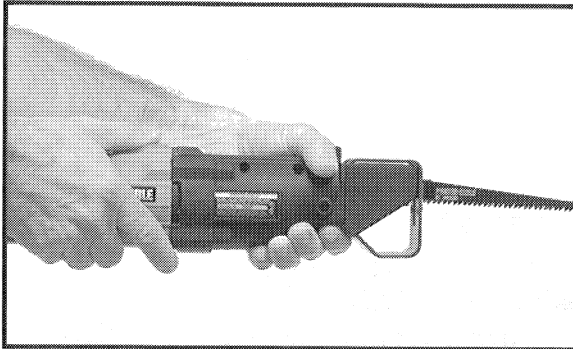

Fig. 4
1. **ALWAYS** hold saw as shown in Fig. 4 to prevent accidental electric shock resulting from cutting a live wire when sawing into a wall or other blind area.
**WARNING: TO PREVENT ACCIDENTAL ELECTRICAL SHOCK THE SAW MUST BE HELD AS SHOWN IN FIG. 4.**
**WARNING:** Exercise extreme caution when blind cutting to be certain there are no foreign objects, such as electrical wires, conduit, plumbing pipes, etc., that may come in contact with the blade. BE CERTAIN THAT THE SAW IS HELD AS SHOWN IN FIG. 4.